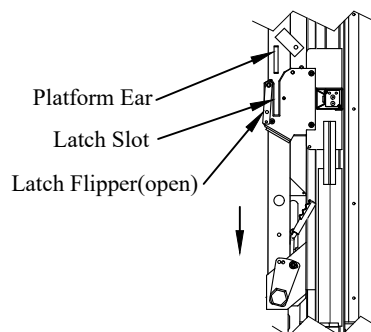

Figure 10: Step 13.
- Step 13. Slowly lower the platform into the latch plates until the platform ear reaches the bottom of the latch slot (Figure 10).